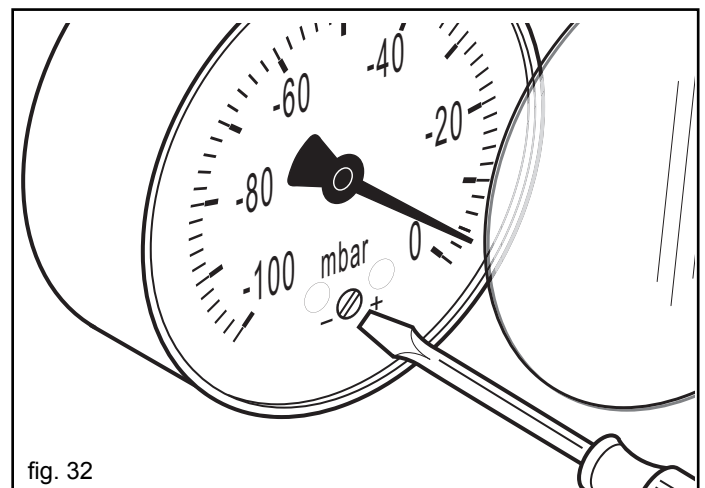

fig. 32
**If it is necessary to reset the indicator of the vacuum gauge, remove the glass cover and use a screwdriver to take out the screw as shown in Figure 32.**